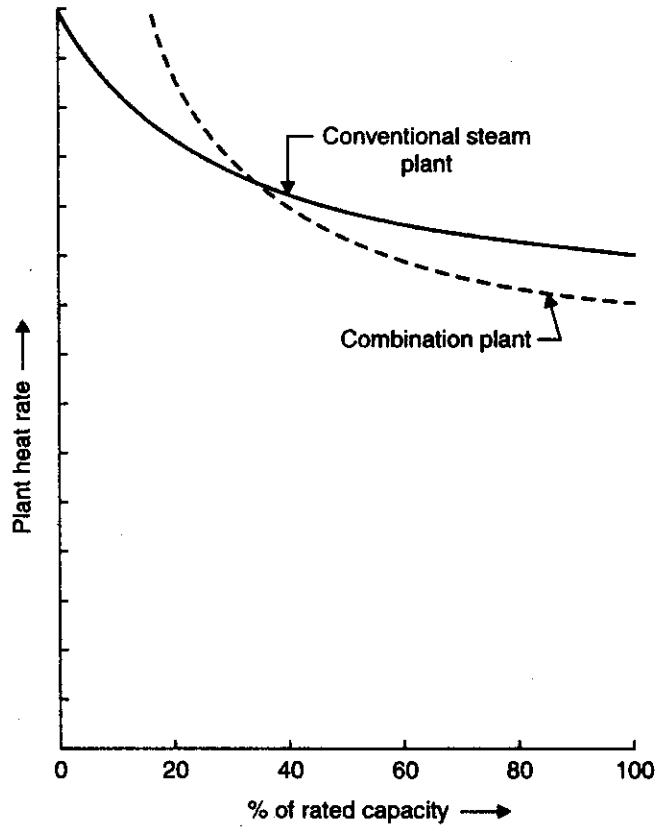

Fig. 5.25
- Fig. 5.25 shows the gain in heat rate due to combination cycle.